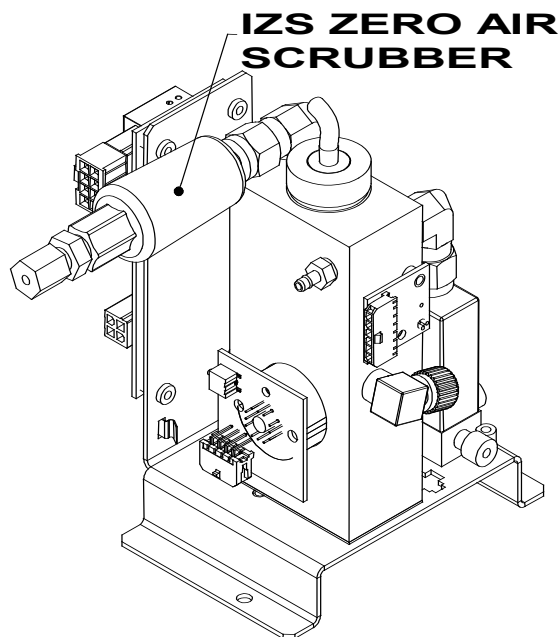

Figure 5-17. IZS O3 Generator Zero Air Scrubber Location
3. The IZS zero air scrubber is attached to the brass elbow inlet fitting on the top of the O3 generator assembly. See Figure 5-17.